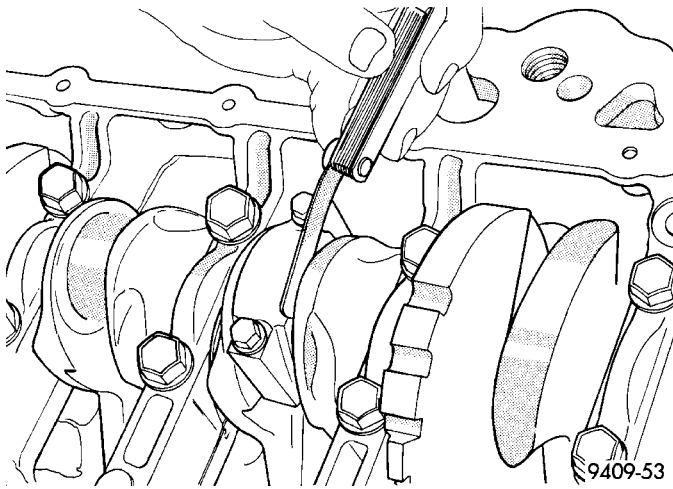

Fig. 78 Connecting Rod Side Clearance - Typical
(15) Using a feeler gauge, check connecting rod side clearance (Fig. 78). (Refer to 9 - ENGINE - SPECIFICATIONS) for connecting rod side clearance.
(16) Install the cylinder head (Refer to 9 - ENGINE/CYLINDER HEAD - INSTALLATION).
(17) Install the oil pan (Refer to 9 - ENGINE/LUBRICATION/OIL PAN - INSTALLATION).
(5) Using a feeler gauge, check connecting rod side clearance (Fig. 78). Refer to clearance specifications (Refer to 9 - ENGINE - SPECIFICATIONS).